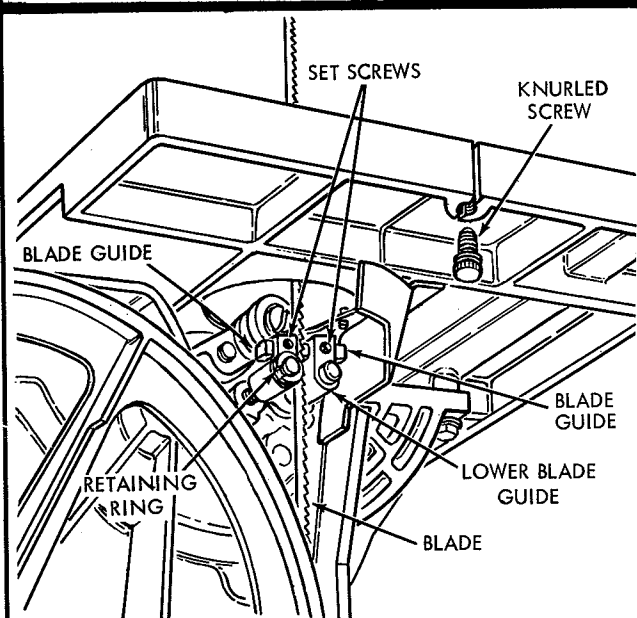

Figure 16
- c. Loosen the two lower blade guide set screws (figure 16) just enough to permit blade guides to slip. Then move each guide in against the blade until guides are as close to the blade as possible without binding it and tighten set screws securely to lock the guides in the holder. Make sure the blade is not deflected when adjusting the guides.